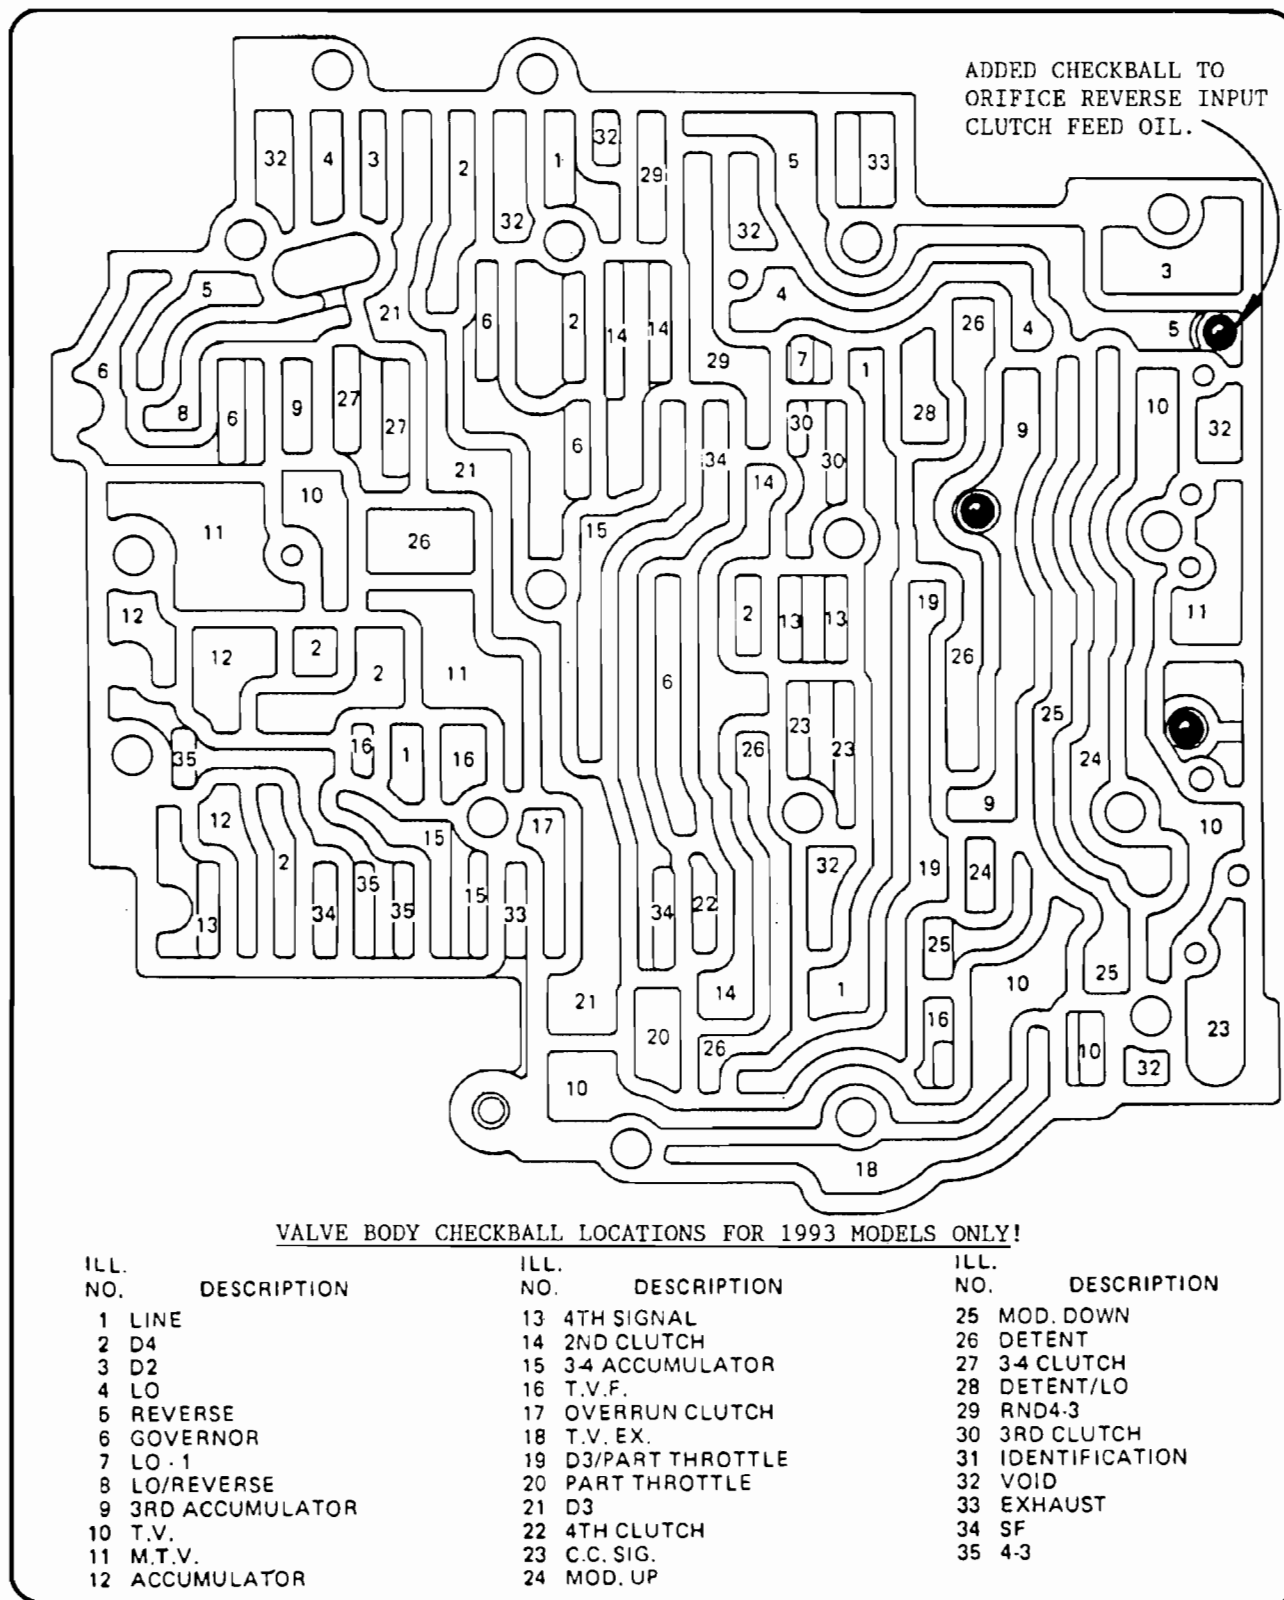

Figure 24
- (2) VALVE BODY CASTING - Changed with the addition of checkball in the location shown in Figure . (NOT IN BATHTUB). This checkball was added to orifice feed oil to the reverse input clutch (See Figure 24).